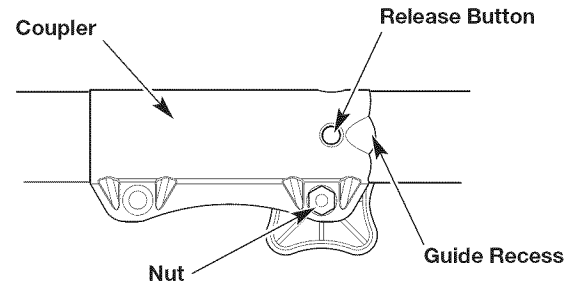

Fig. 3
NOTE: Aligning the release button with the guide recess will help installation (Fig. 3).
NOTE: Do not tighten the nut (Fig. 3).
2. Press and hold the release button (Fig. 3).